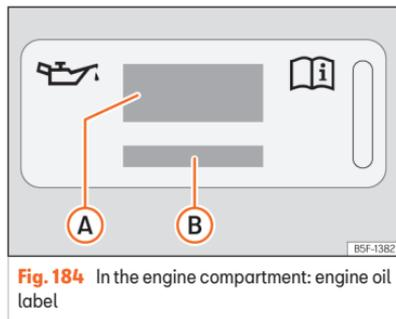
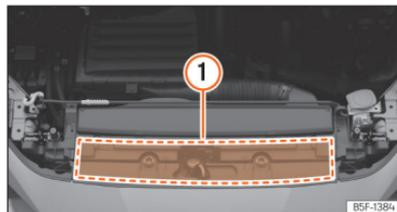

Fig. 184 In the engine compartment: engine oil label
Fig. 185 In the engine compartment: area where the engine oil label is located
Key to the >>> Fig. 184:
If the engine oil has to be topped up, use one of the oils shown on the label >>> Fig. 184. The label with the prescribed standard is located at the front of the engine compartment >>> Fig. 185 (1). If you use the recommended engine oil, you can top up the oil as often as necessary.
- If the label showing the engine oil specifi-cations is missing >>> Fig. 184, please contact a specialist workshop.